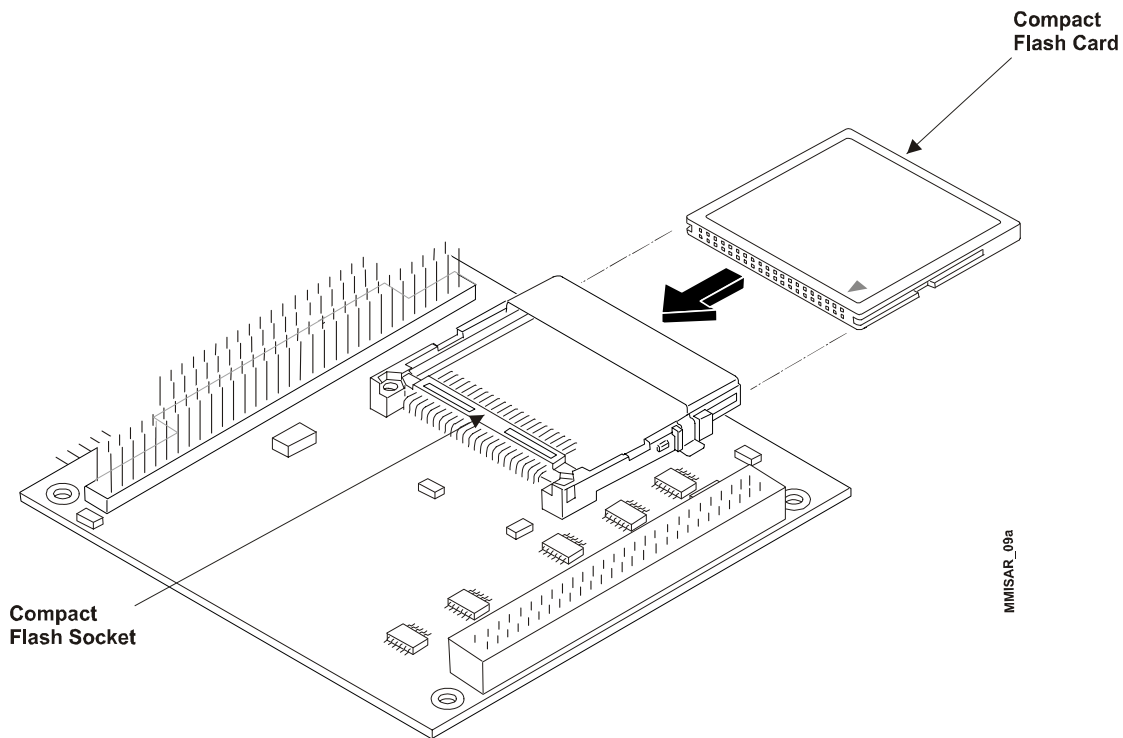

Figure 3-1. Installing the Compact Flash Card
4. Turn the MiniModule ISA over to access the bottom of the board and lay it on a flat anti-static surface. See Figure 3-1.
7. Insert the compact flash card into the socket provided by the tabs on the protective cover as shown in Figure 3-1.
8. Push the compact flash card into the socket until it firmly mates with the pins. See Figure 3-1.